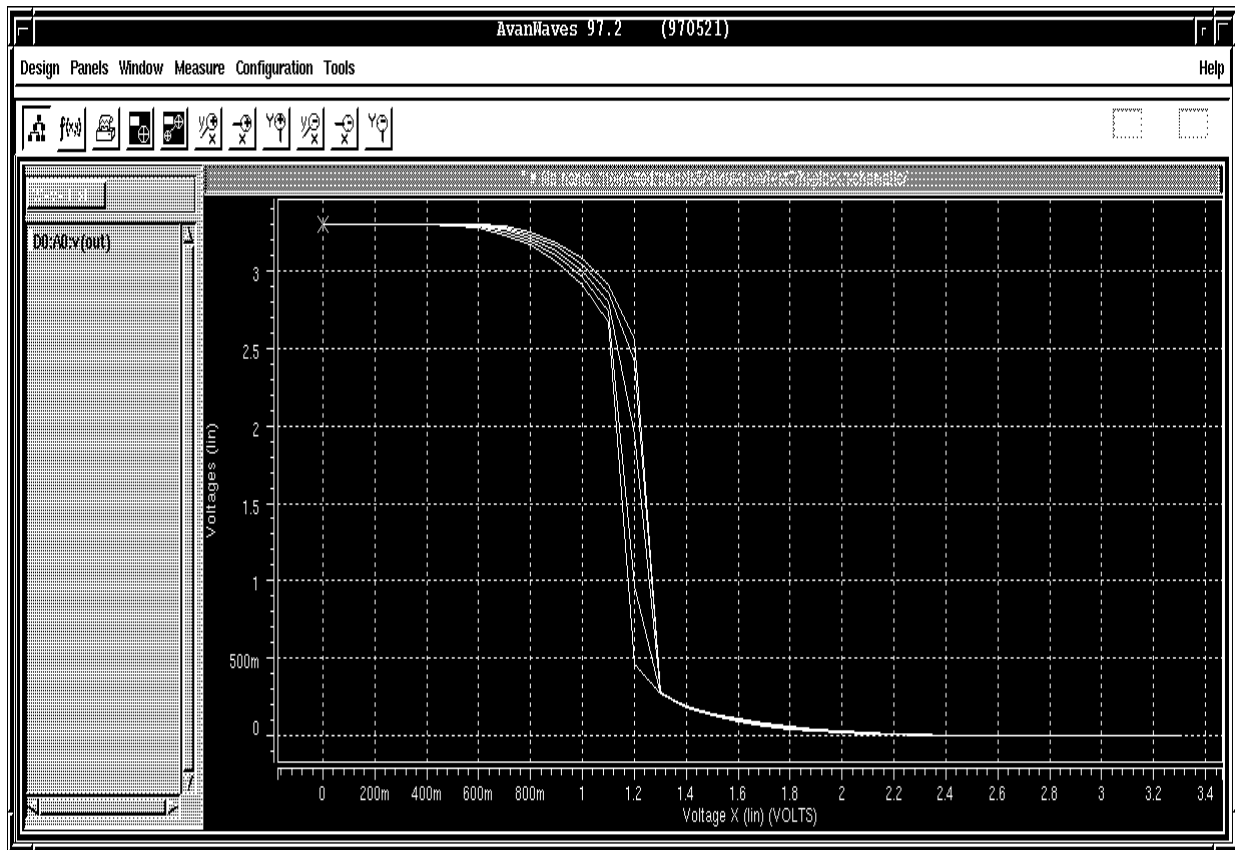

Figure 26: DC Transfer Characteristics corresponding to a Temperature Sweep.
3-13: Select the v(out) family of curves and drag this selection into the panel by clicking and holding the middle mouse button. Notice that the graph is a plot of V(OUT) versus V(IN) and there are 5 separate curves; one curve for each particular temperature value dictated by the SWEEP TEMP LIN command. Refer to Figure 26.